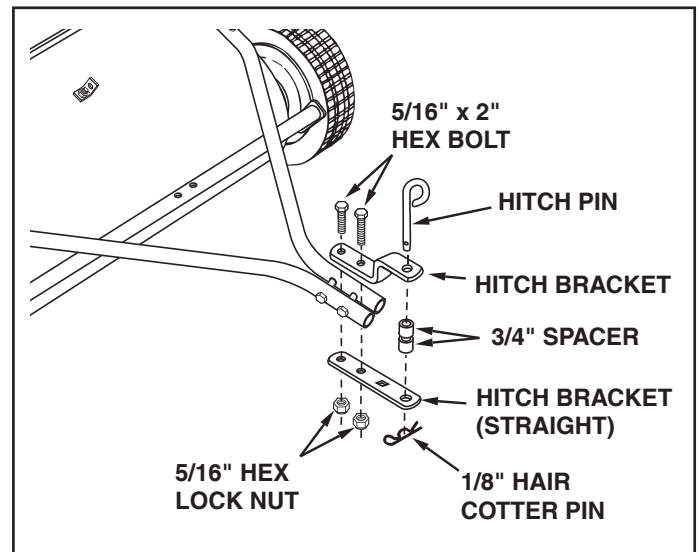
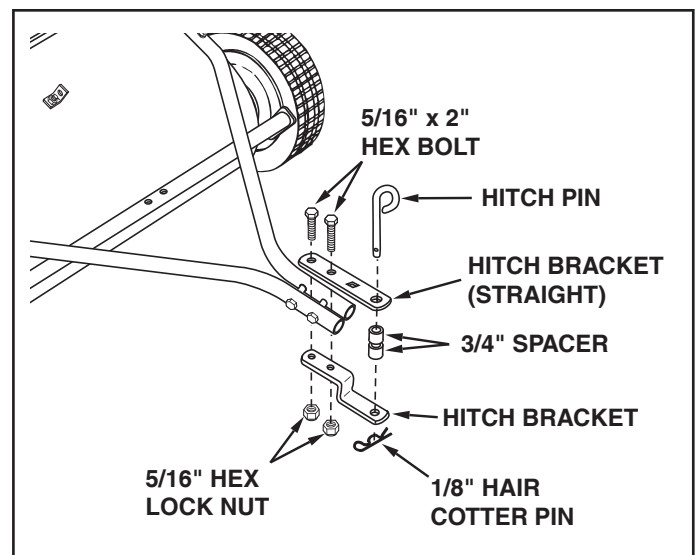

FIGURE 4
FIGURE 5
If your tractor hitch has 10" to 13" ground clearance refer to figure 4. If your tractor hitch has 8" to 10" ground clearance refer to figure 5.
- Assemble the hitch brackets to the hitch tubes using two 5/16" x 2" hex bolts and 5/16" hex lock nuts. The bolts should straddle the front hitch tube bolt. **Do not tighten yet.** See figure 4 or 5.
- Assemble the hitch pin, two 3/4" spacers and the 1/8" hair cotter pin to the hitch brackets. See figure 4 or 5.